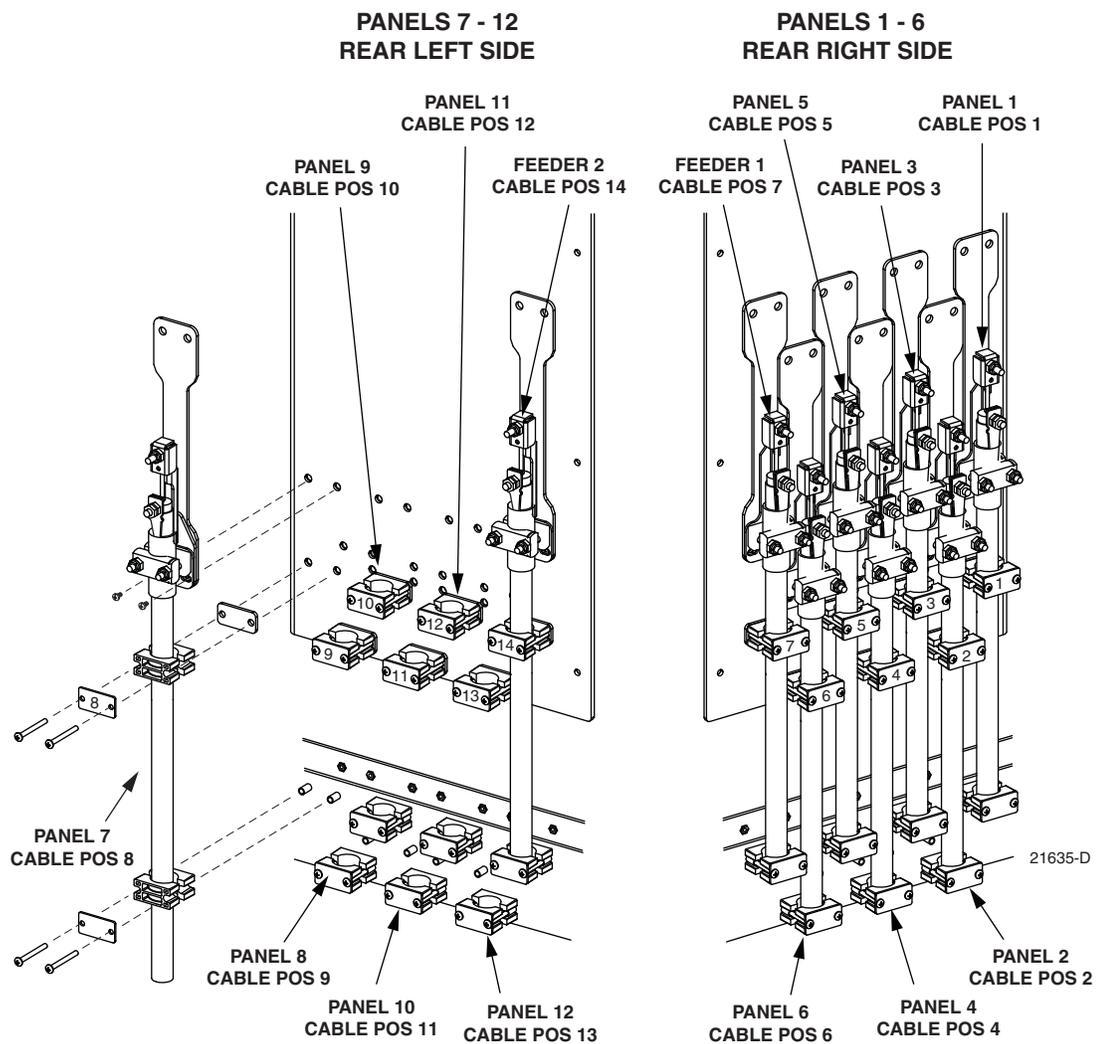

Figure 22. Secure Distribution Cable to Cabinet Center Partition
5. Locate the cable clamping position specified for the next distribution cable as shown in Figure 22.
- **Note:** The fiber optic cables are numbered 1–14 starting with the first cable on the right side of the center partition and continuing with the first cable on the left side of the center part ion (see Figure 22). The holes for the grounding cables are numbered 1–14 starting with the top opening in the weather-seal strip.